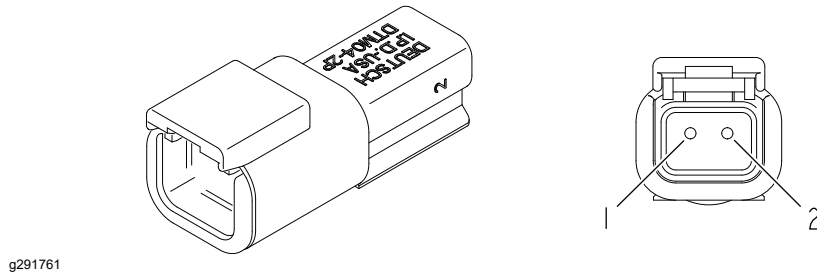

Figure 64
1. The CAN-bus terminator resistor (Figure 64) can be tested using a digital multimeter (ohms setting). Locate the CAN-bus terminator resistor and remove the cable tie that secures the resistor to the wire harness. Unplug the resistor from the wire harness for testing.